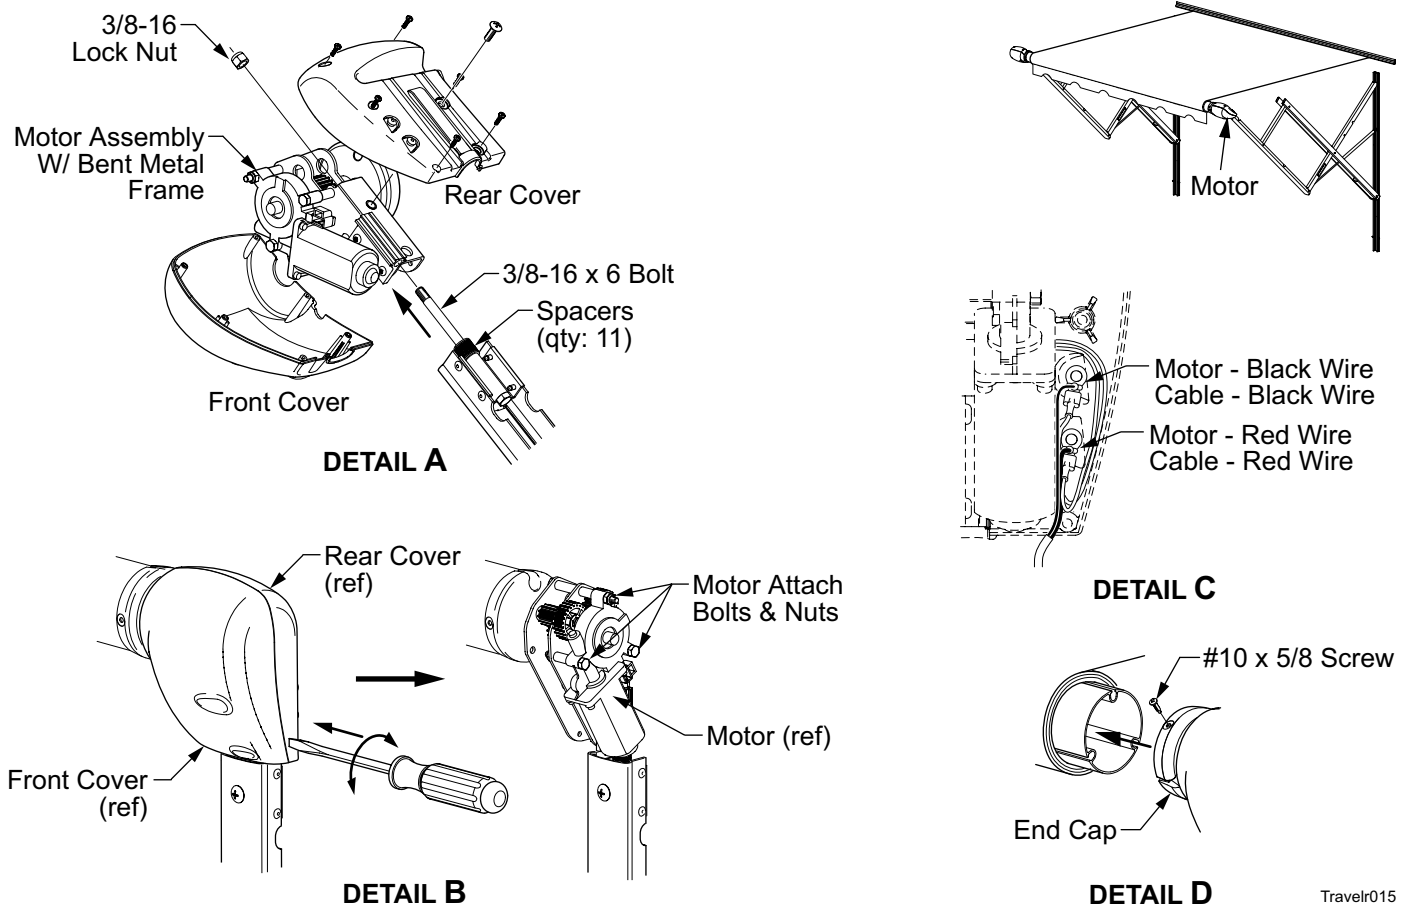

Figure 6. Motor Replacement – Series I.
2.3 (refer to Figure 6, Detail B) Firmly hold the motor and idler arms up while removing the three (3) motor attach bolts and nuts.